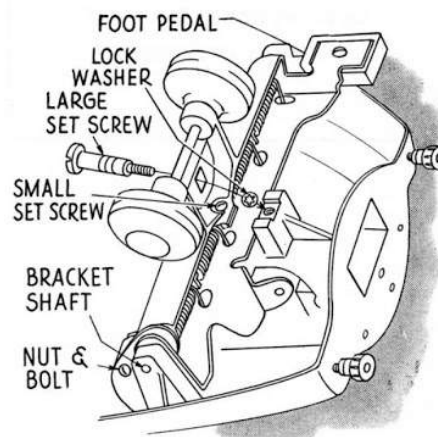

FIG. 126—Model 26 rear wheel support bracket
9. On Model 26, to remove the **rear wheel support bracket**: Figure 126.